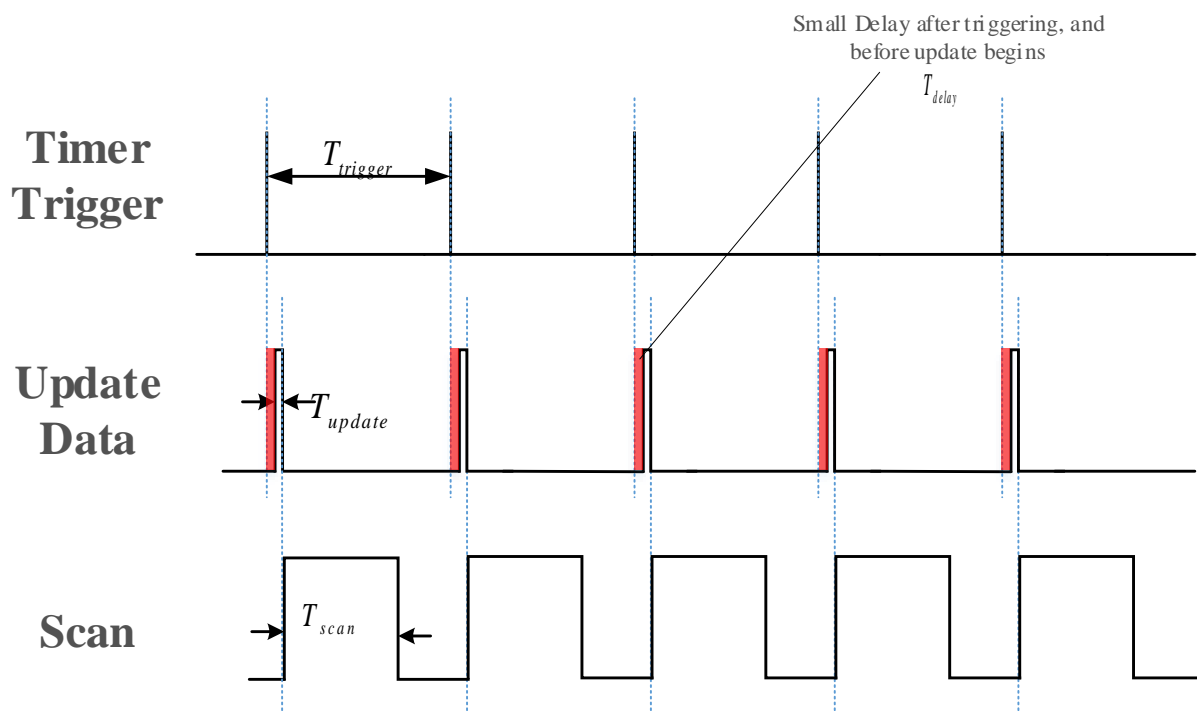

Figure 1: Periodic Software Trigger Timing Diagram (timing not to scale)
- A slight delay occurs until the main application detects that the flag has been set (red bar in Figure 1).